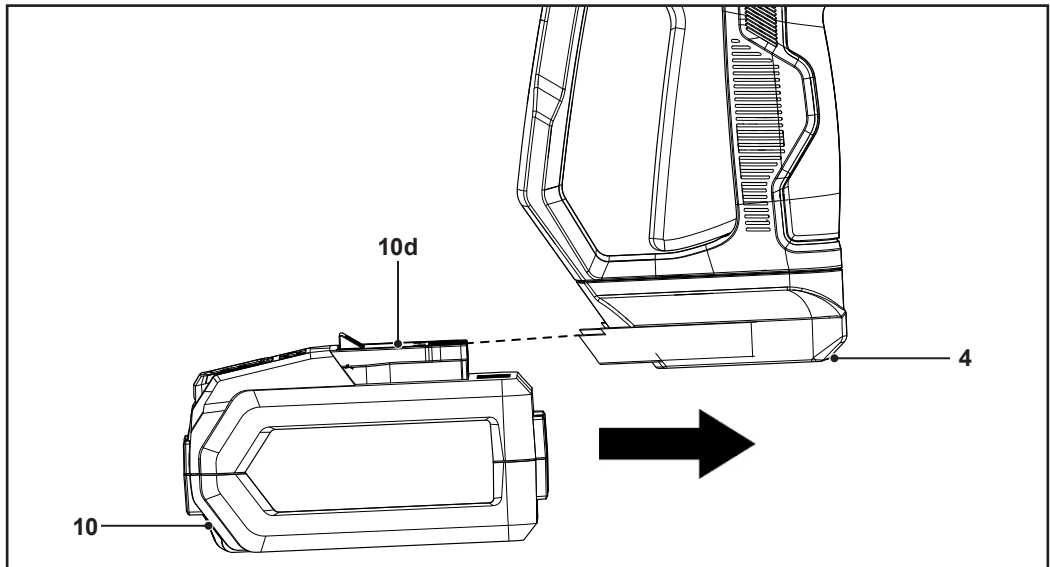

Fig. 1
1. To attach the battery pack (10) to the appliance, slide the battery pack (10) into the battery slot (4). The charging contacts (10d) are securely fastened when the battery pack (10) audibly clicks into position (Fig. 1).
2. To remove the battery pack (10) from the appliance, press the release button (10a) and pull the battery pack (10) to detach it from the battery slot (4) (Fig. 1).